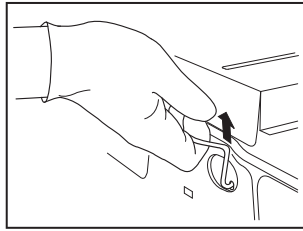

Fig. 2
2. Lift the handle up as shown in Fig. 2